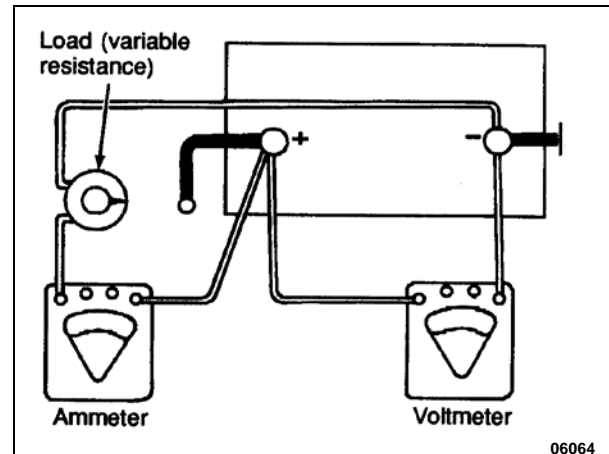

FIGURE 28: LOAD TEST
1. Connect a voltmeter, ammeter, and a variable load resistance as illustrated in Figure 28.